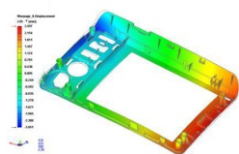

Fig.4 The warpage analysis of the framework of 3C products
4. As the warpage analyses shown in Fig. 4~6, users can observe whether the pressure evenly transmit to each plastic part, and accurately perform packing to manufacture the product with condense filling and a clear-cut shape.